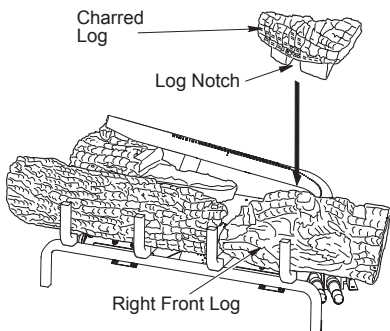

Figure 27 - Installing Charred Log
- Find the charred log (D-020). See Figures 27, 27A, and 27B. The log has a slot in the bottom that fits over the square grate and rests against the burner tube as shown in Figure 27. Place this log on the base as shown in figures.